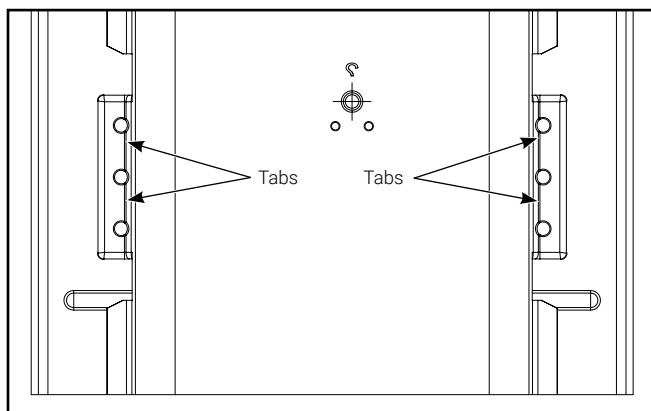

Figure 4.
3. To remove the driver enclosure press inward on both sides of enclosure to release tabs from housing. Repeat for all mounting tabs (Figure 4). The driver enclosure is tethered to the housing.